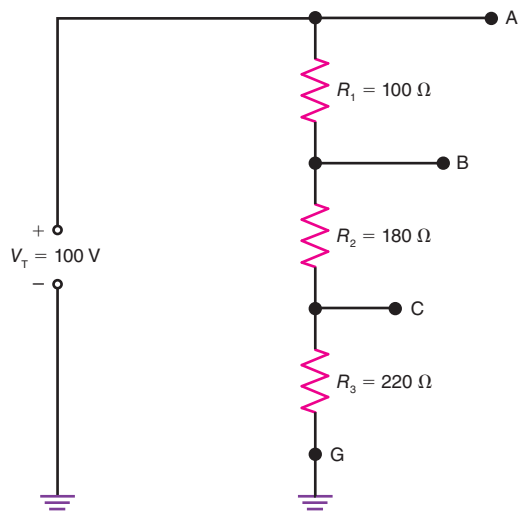

Figure 7-35
- 7.30** In Fig. 7-35, calculate